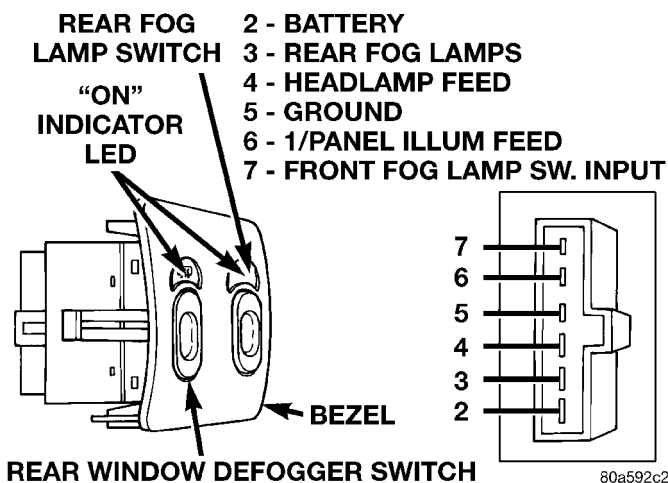

Fig. 28 Rear Window Defogger and Rear Fog Lamp Switch
(1) Remove the top cover and cluster bezel assembly. Refer to Top Cover and Cluster Bezel Removal above.
(2) Reach in and disengage the left bezel latch and remove the assembly (Fig. 28).
(3) Pull the bezel and switch(s) rearward from the opening and disconnect the wire connector(s).
(4) Remove the switch from the bezel.